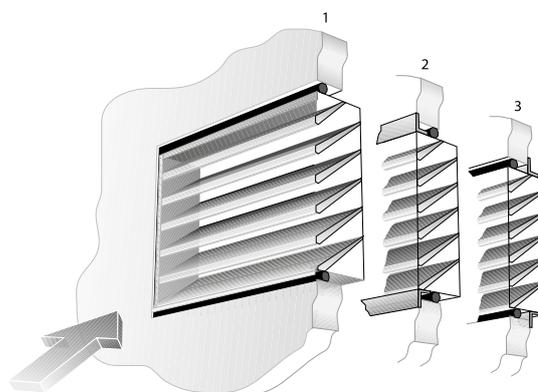

Figure 2. The grille can be installed e.g. in the following way:
3. With an internal flange. (See Figure 2)